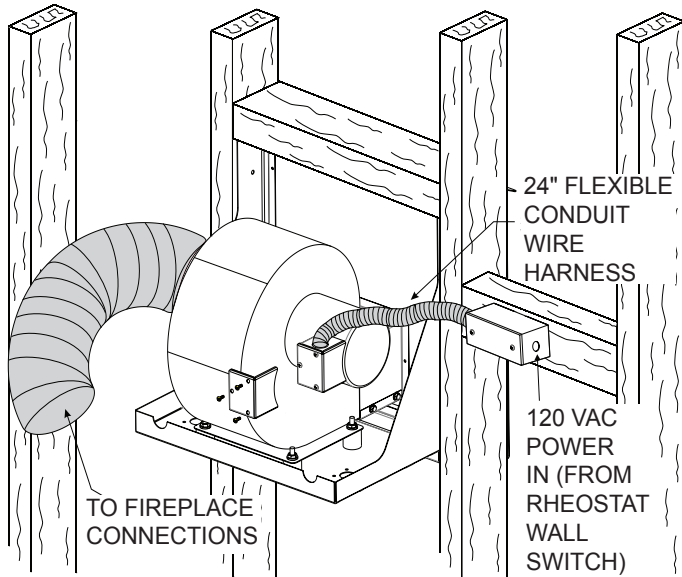

Figure 14
17. Mount the included metal junction box to the framing near the blower base within 2' foot so the flexible metal clad wire harness can be terminated and spliced into the 120 Volt electrical supply. **See Figure 14.**